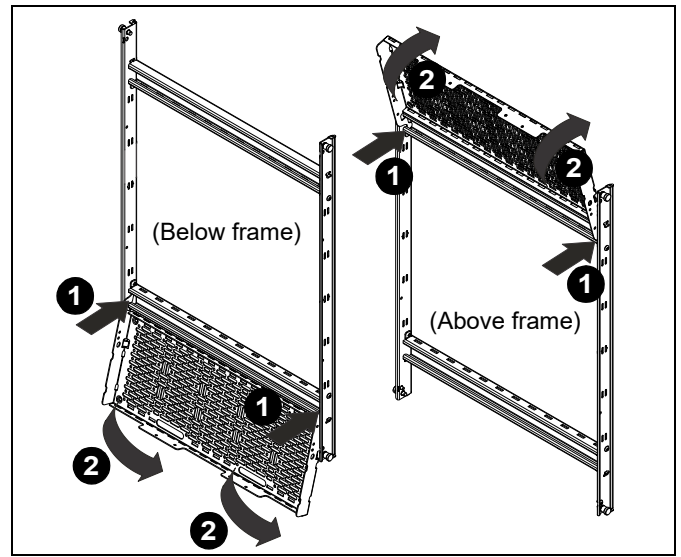

Figure 23
1. Insert the two upper points on the storage panel (A) into the channel along the upper or lower horizontal rail on the wall rail assembly. (See Figure 23)
2. Guide the bottom/top edge of the storage panel (A) towards the wall until it is positioned vertically below/above the wall rail assembly. (See Figure 23)